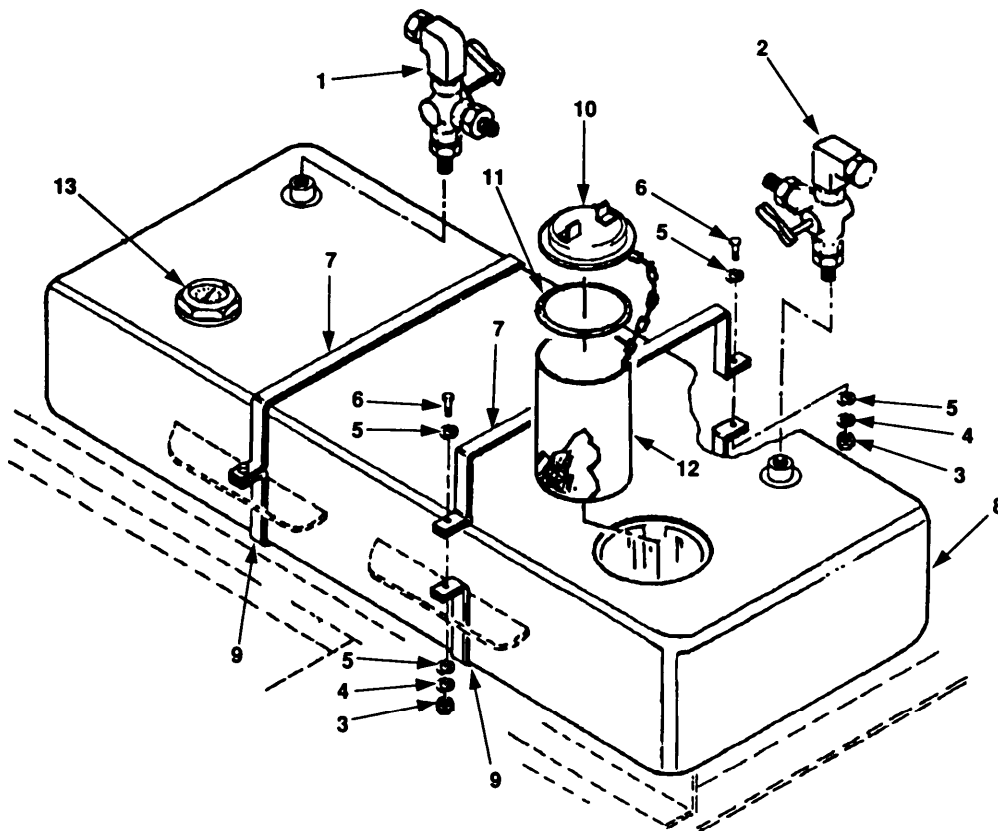

Figure 5-16. Fuel Tank Maintenance.
- b. Remove three-way fuel selector valves (figure 5-16, 1 and 2).
- c. Remove four nuts (3), lockwashers (4), eight washers (5), and four bolts (6).
- d. Remove top two straps (7).
- e. Remove fuel tank (8) and bottom two straps (9) from frame.
- a. Clean exterior of fuel tank (8) with solvent.
- b. Flush interior of fuel tank (8) with solvent.
- c. Purge fuel tank (8) with continuous flow of clean water.
- d. Inspect fuel tank (8) for leakage.
- e. Remove filler cap (10).
- f. Inspect filler cap gasket (11) and strainer (12) for damage.